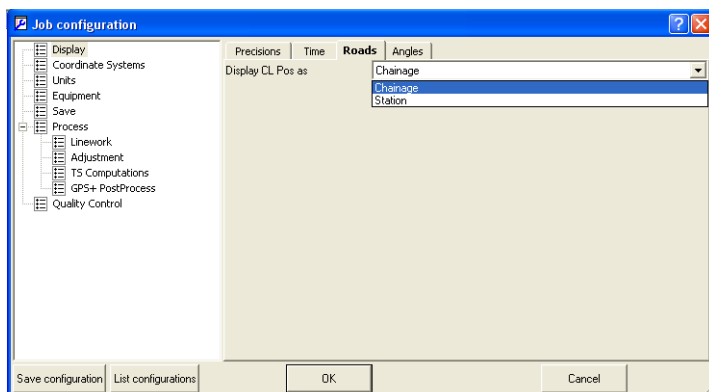

Figure 2-13. Job Configuration – Roads Tab
- The Roads tab (Figure 2-13 on page 2-8) sets the type of number to use for the centerline position.